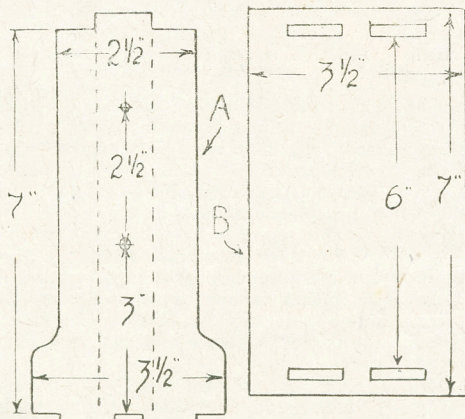

Fig. 1—Sides and floor pieces of model
Make the stand first. This consists of two sides, a base, and a top. Patterns for the two former parts are given in Fig. 1. (A) is the sides. Cut two of these to shape and dimensions, making the tenons 1in. long, and $\frac{1}{2}$ in. apart for the bottom pair.